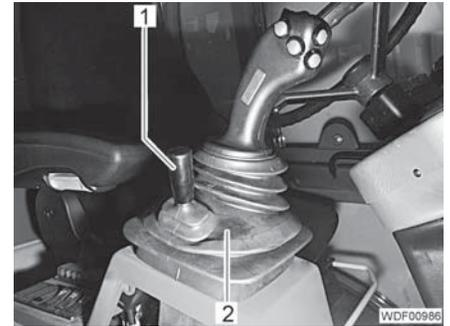

Fig. 206 Control lever
- Unscrew the handle (Fig. 206,1) from the control lever of the auxiliary hydraulics.
- Carefully remove the bellows (Fig. 206,2) upwards.
- Pull the bellows (Fig. 206,2) carefully upwards over the control levers.
- Screw the nut (Fig. 206,1) onto the control lever of the auxiliary hydraulic and tighten it hand-tight.